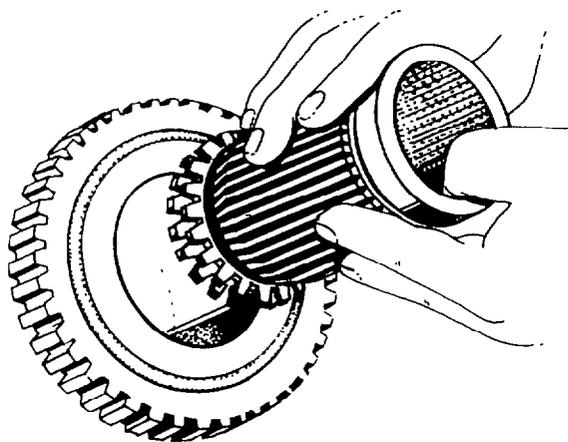

Fig. 196 — Installing Second/Third Gear Sliding Clutch
- e. Install the second/third gear sliding clutch and engage it with the third gear clutch teeth (see fig. 196).